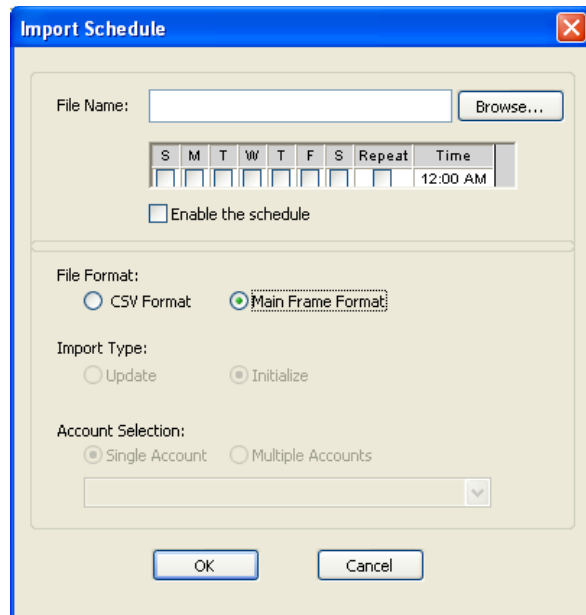

Figure 74
- 3a. If you selected SCHEDULED IMPORT in step 2, click the days of the week and enter the time that you want the import to be performed (Fig 74). Check the REPEAT square if the schedule is to repeat on a weekly basis. You must also check the Enable Schedule box to initiate the schedule that you created.